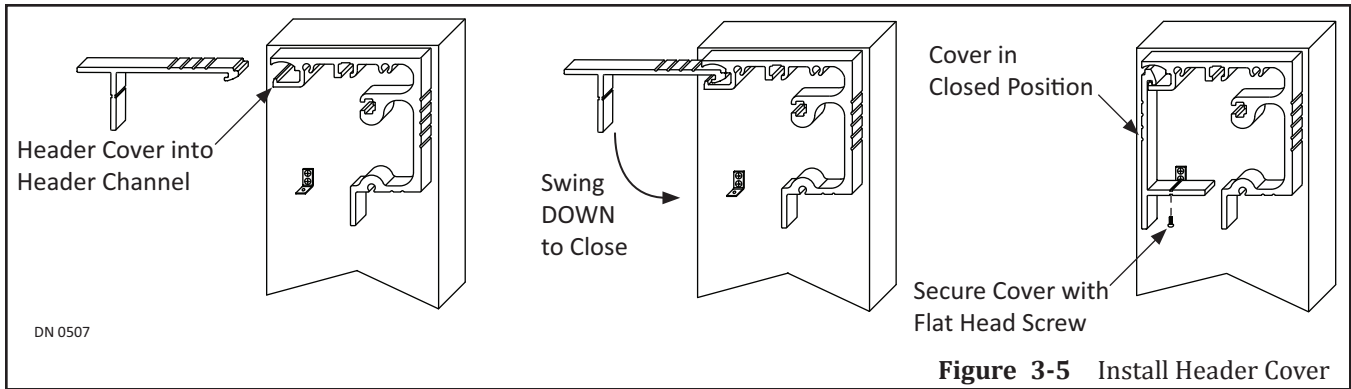

Figure 3-5 Install Header Cover
7. Insert Cover into the Header Channel, swing down to close, and secure Cover to each Cover Clip with (2) Round Head Screws. Please see Figure 3-5.